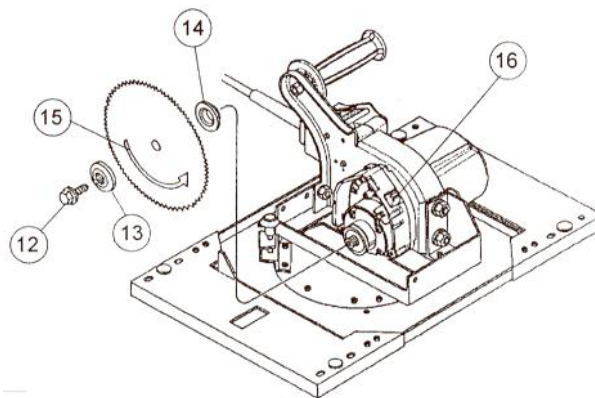

Figure 7: Installing a Saw Blade (C&H Series Shown)
2. Tighten your rip lock on your carriage. While holding the in the spindle lock (16)(located on the bottom side of your motor) **remove the blade bolt (12)**(Figure 7) from the saw motor spindle by turning it **counterclockwise**. Remove the outer blade flange (13), but leave the inner blade flange (14) on the spindle.